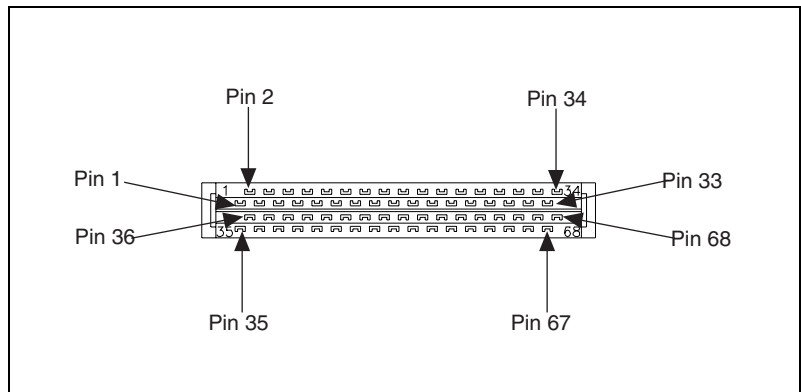

Figure 2. Solder Side of 68-Pin Female Connector
1. Solder the cable wires to the appropriate connector pins on the solder side of the 68-pin female connector, as shown in Figure 2.